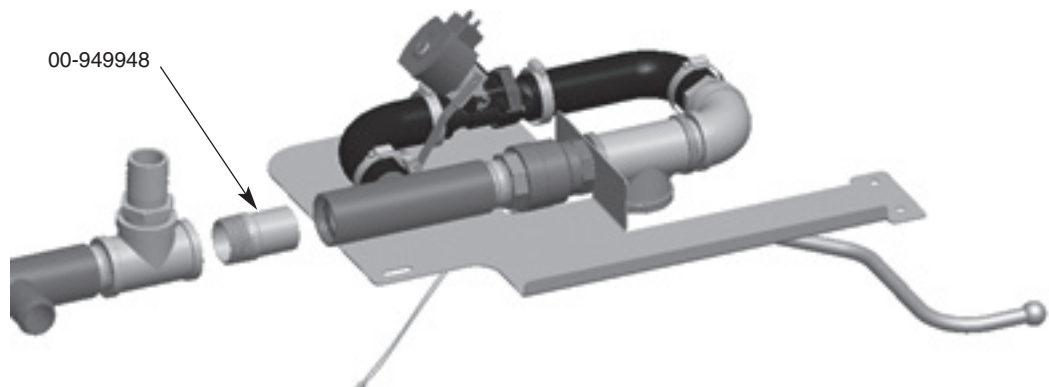

Fig. 14
6. Remove turned down threaded piece (00-949948) from drain tee at the unload end and replace with NPT pipe plug shipped with the machine. 00-949948 can be discarded. See Fig. 14.